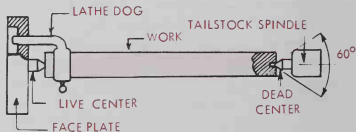

Fig. 10-19. Work mounted between centers.
12. Place a small amount of white lead lubricant in the center hole at the tailstock end. Insert the work between the centers and screw up the tail center just snug enough to prevent the lathe dog from chattering when machine is in operation, Fig. 10-19.